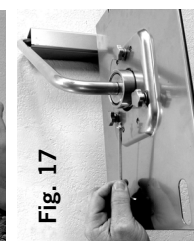

Fig. 17
Thread 1/4" hex head set screw (F) into side of pipe collar, on top projector mounting plate (A). (Fig. 17)